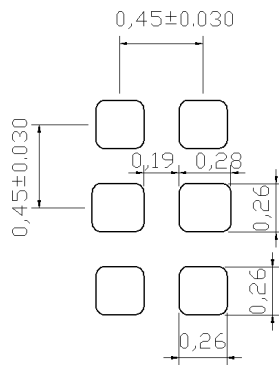

Figure 8
- The stencil opening size is recommended in Figure 8.